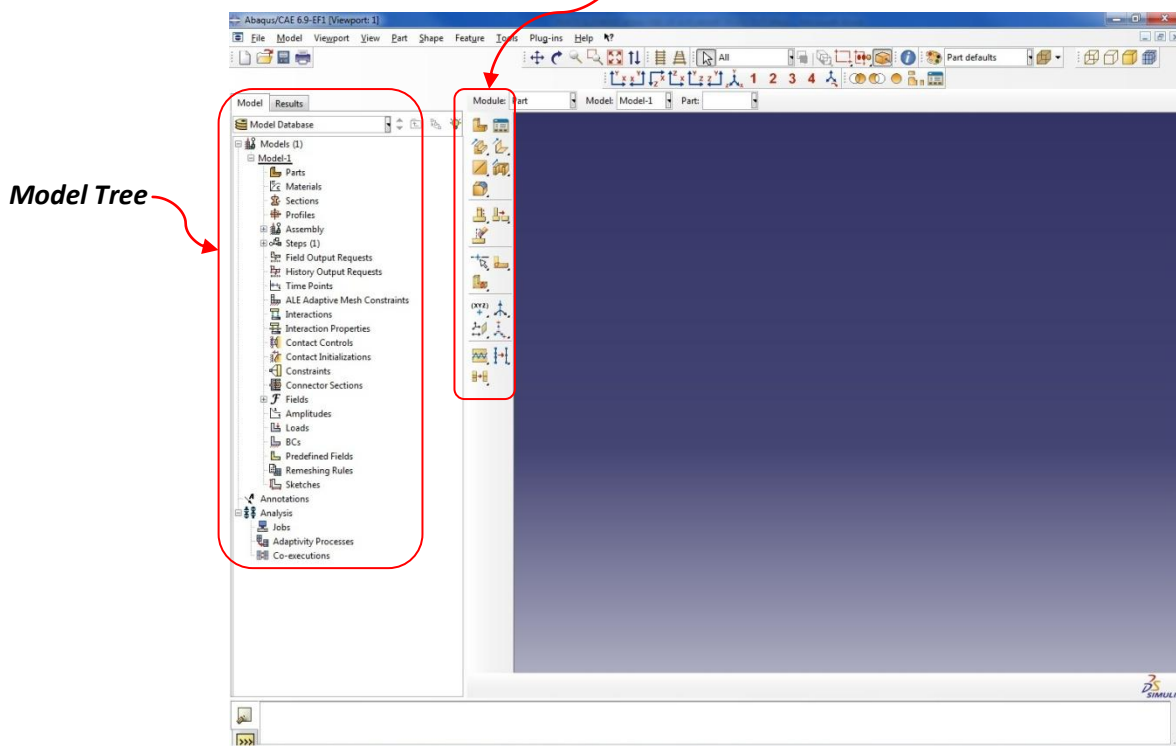

Figure 2. ABAQUS CAE Viewport
- Once the **Extended Functionality** box is exited, the ABAQUS CAE Viewport should look similar to Figure 2. (Please note the **model tree** is the series of functions listed on the left hand side of the viewport, while the **module** is the list of icons to the right of the model tree)